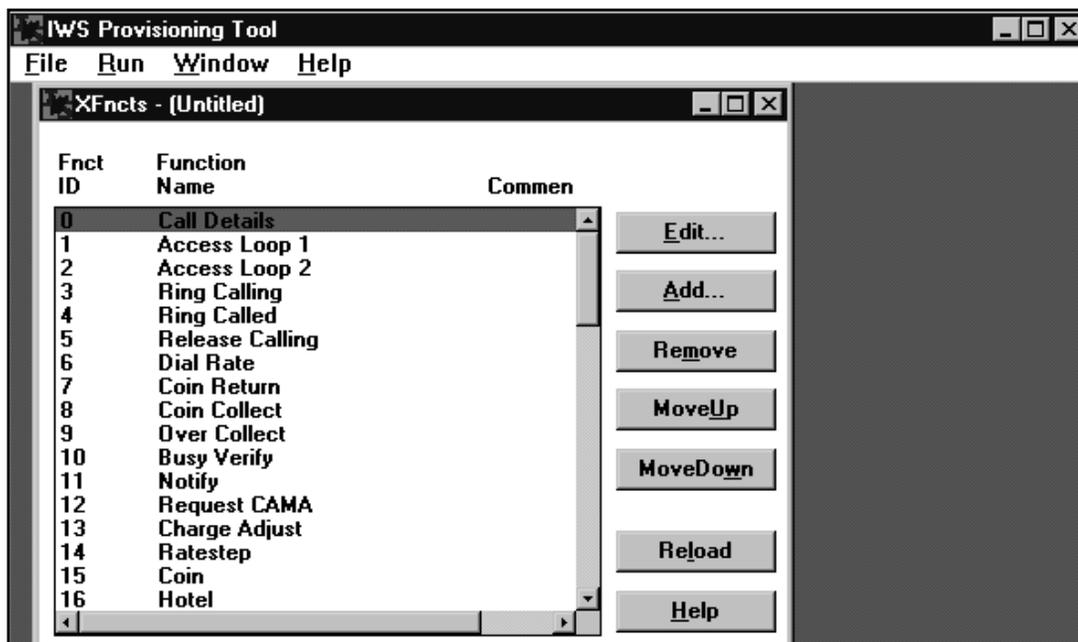

FIGURE 118. Example of an XFNCTS dialog box
4. Select file XFNCTS from the listing. (See Figure 118.)